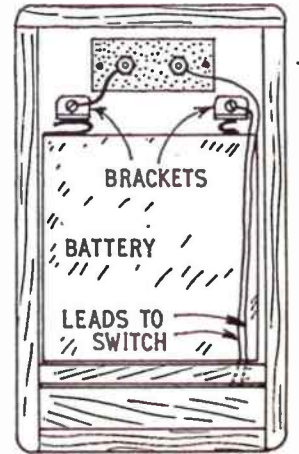

Fig. 3—Back of lighter
Fig. 3 shows the completed lighter, as seen from behind. The front, top, sides
A 3-cell 4½V. battery, with brass contacts doubled over, is inserted in the case, and two small brackets, cut from brass, are screwed in the positions shown in Fig. 3. The battery strips are bent as necessary to make good contact with these brackets.
The electrical connections are shown in Fig. 3, and should be really tight. The element coil should light a bright red as soon as the button is pressed, and the button must be released immediately.
To make the cup, fold the paper square in half along one diagonal (Fig. 1). Then fold corner (B) to point (X) (Fig. 2), and fold corner (A) to point (Y) (Fig. 3).
The wood ships of Egypt were built of planks about 4ins. thick and edge to edge. The keel was a flat plank wider than any of the others. As in Fig. 3 the planks had dowels let into the edges to prevent movement, the planks forming the gunwale being laced together. The ends of the cross beams protruded through the hull, although actual frames or ribs do not appear to have been used. Instead of the hull used when the ends of a wooden term dropped out of line due to strain.